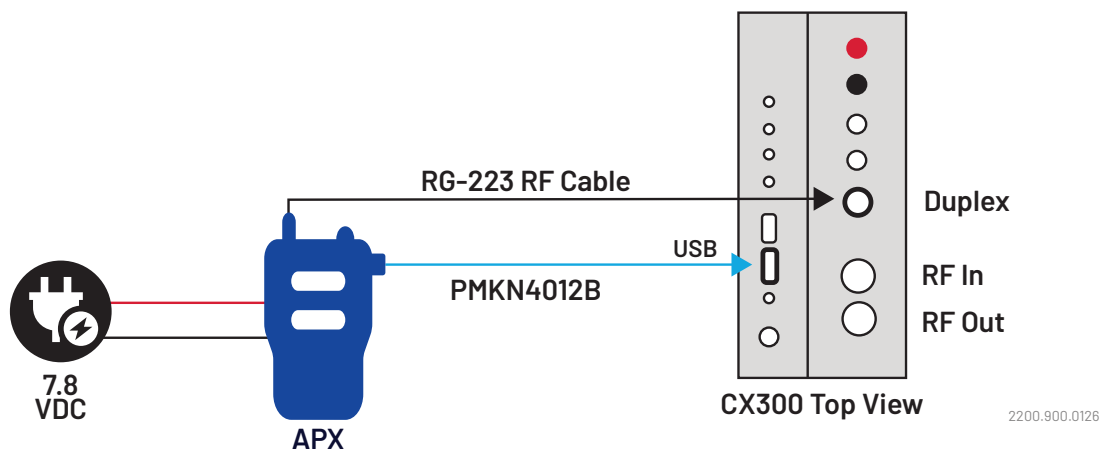

Figure 1. Portable Radio
1. (Fig.1) shows the connection information using Programming Cable: PMKN4012B